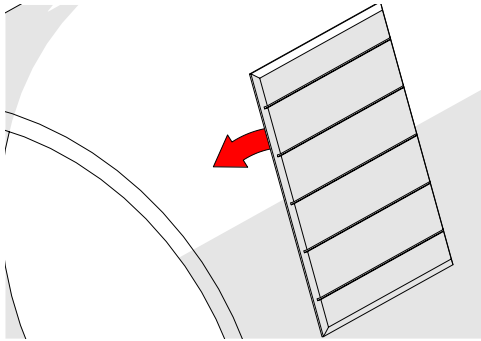

Fig. 284 - Place installation/removal mat
2. Place the installation/removal mat (Fig. 284) on the inspection surface (Fig. 284).